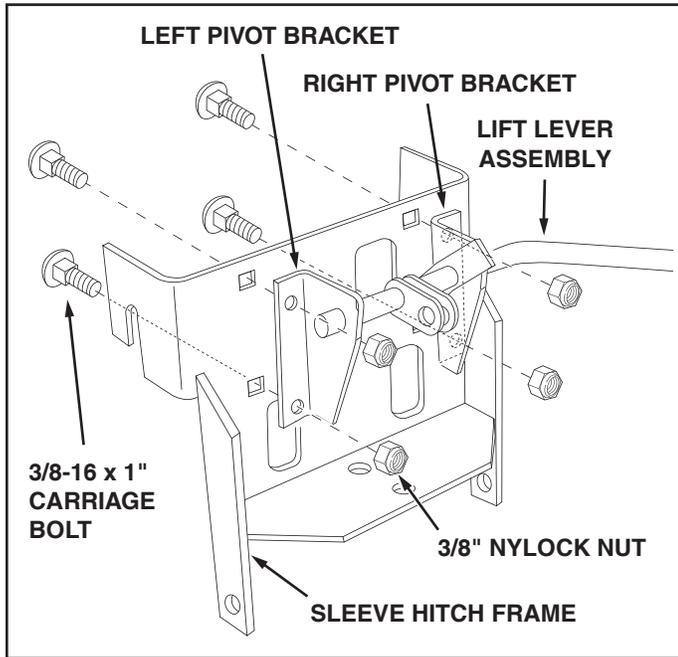

FIGURE 3
- Place the Left Pivot Bracket onto the end of the Lift Lever Assembly (the Right Pivot Bracket comes already installed on the assembly). See figure 3.
- Attach the Right and Left Pivot Brackets to the Sleeve Hitch Frame Assembly using four 3/8" x 1" carriage bolts and 3/8" nylock nuts. See figure 3.